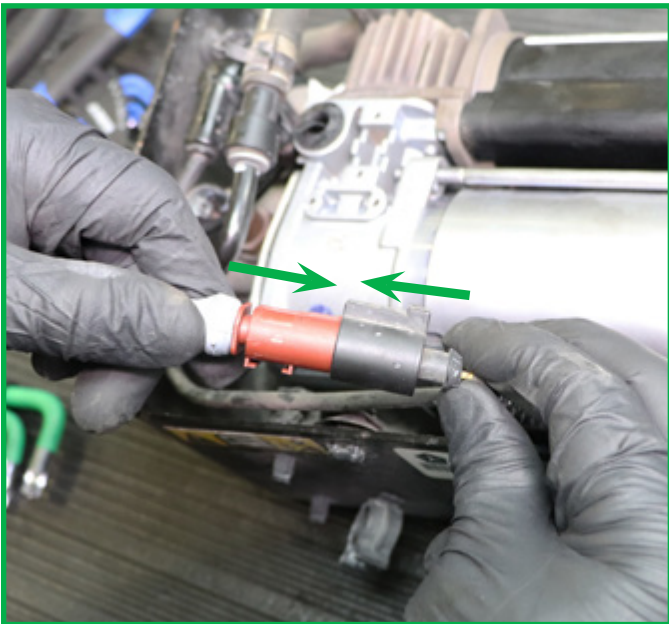

FIGURE 34
8. Connect the new compressor electrical connection pictured below to the existing wire harness already attached to the compressor/valve block assembly. (Figures 34, 35)